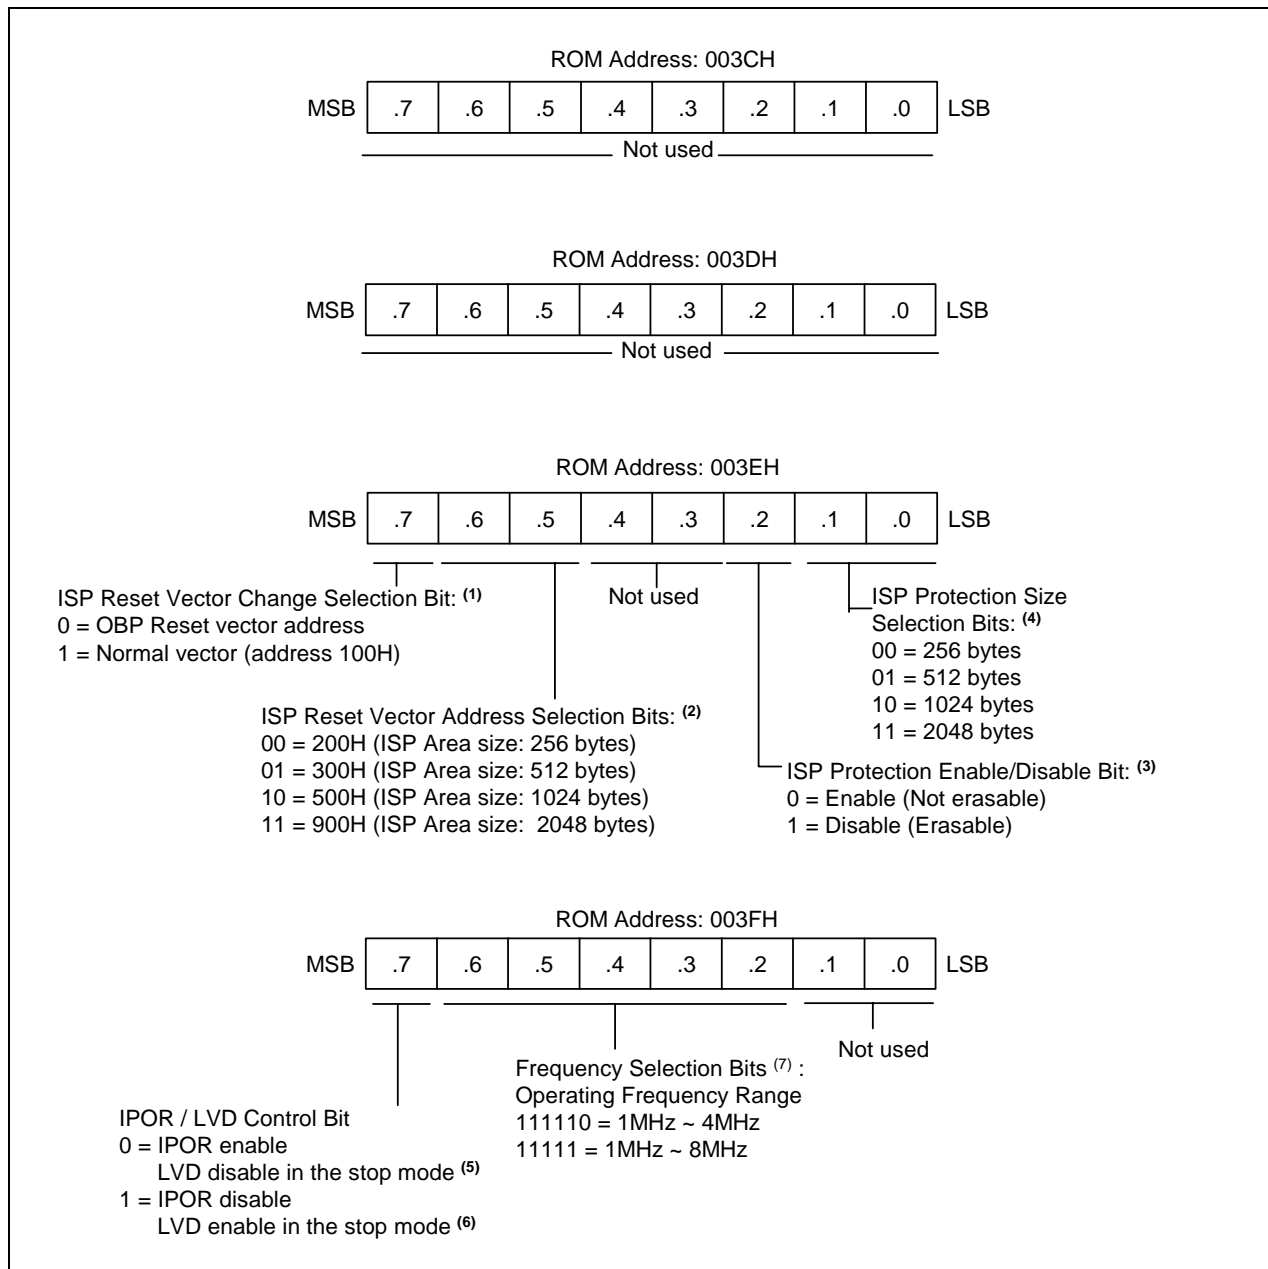

Figure 2-2. Smart Option
IPOR can be enabled or disabled by IPOR / LVD control bit in the smart option. (Refer to Figure 2-2)
The program memory address at which program execution starts after reset is 0100H(default). If you use ISP™ sectors as the ISP™ software storage, the reset vector address can be changed by setting the Smart Option. (Refer to Figure 2-2).
1. The size of ISP™ sector can be varied by Smart Option. (Refer to Figure 2-2). According to the smart option setting related to the ISP, ISP reset vector address can be changed one of addresses to be select (200H, 300H, 500H or 900H).